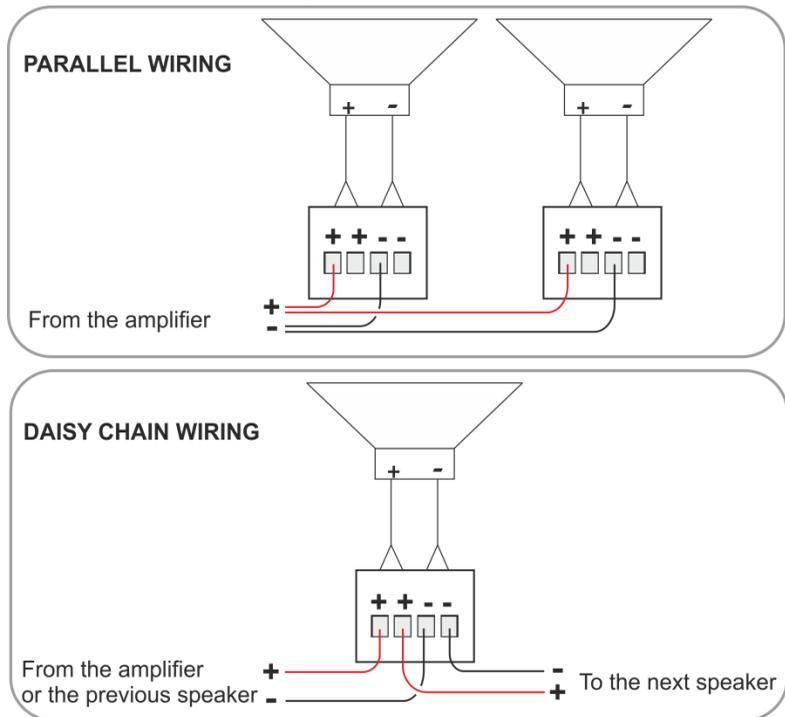

Figure 3: Galil 6-C Schematic Diagram
Figure 3 shows a schematic diagram of the **Galil 6-C**:
- **Wiring in parallel:** connect the wire pair of the subsequent speaker to PIN 2 and PIN 3. When one input connector is removed, subsequent speakers will remain connected (see Figure 3)
- **Daisy-chaining:** connect the wire pair of the subsequent speaker to PIN 1 and PIN 4. When one input connector is removed, subsequent speakers will be disconnected (see Figure 3)